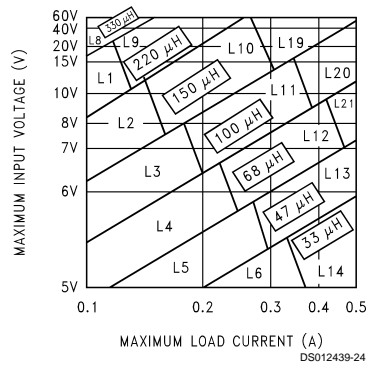
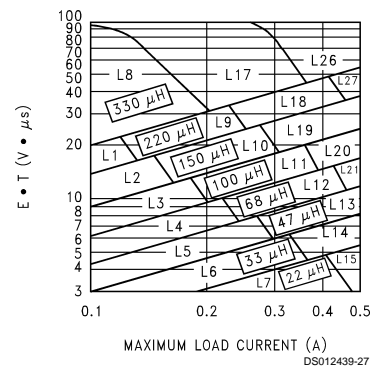
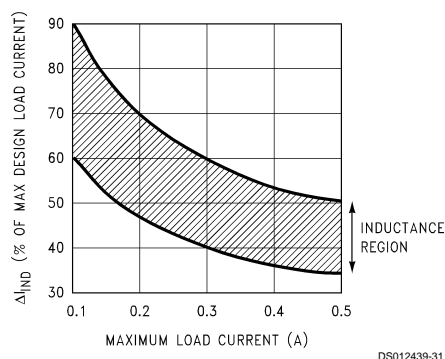

FIGURE 4. LM2594/LM2594HV-3.3
FIGURE 7. LM2594/LM2594HV-ADJ
FIGURE 16. (ΔI_{IND}) Peak-to-Peak Inductor Ripple Current (as a Percentage of the Load Current) vs Load Current
B. Use the $E \cdot T$ value from the previous formula and match it with the $E \cdot T$ number on the vertical axis of the Inductor Value Selection Guide shown in Figure 7.
D. From the inductor value selection guide shown in Figure 7, the inductance region intersected by the 35 ($V \cdot \mu s$) horizontal line and the 0.5A vertical line is 150 μH , and the inductor code is L19.
To simplify the inductor selection process, an inductor selection guide (nomograph) was designed (see Figure 4 through Figure 7). This guide assumes that the regulator is operating in the continuous mode, and selects an inductor that will allow a peak-to-peak inductor ripple current to be a certain percentage of the maximum design load current. This peak-to-peak inductor ripple current percentage is not fixed, but is allowed to change as different design load currents are selected. (See Figure 16.)